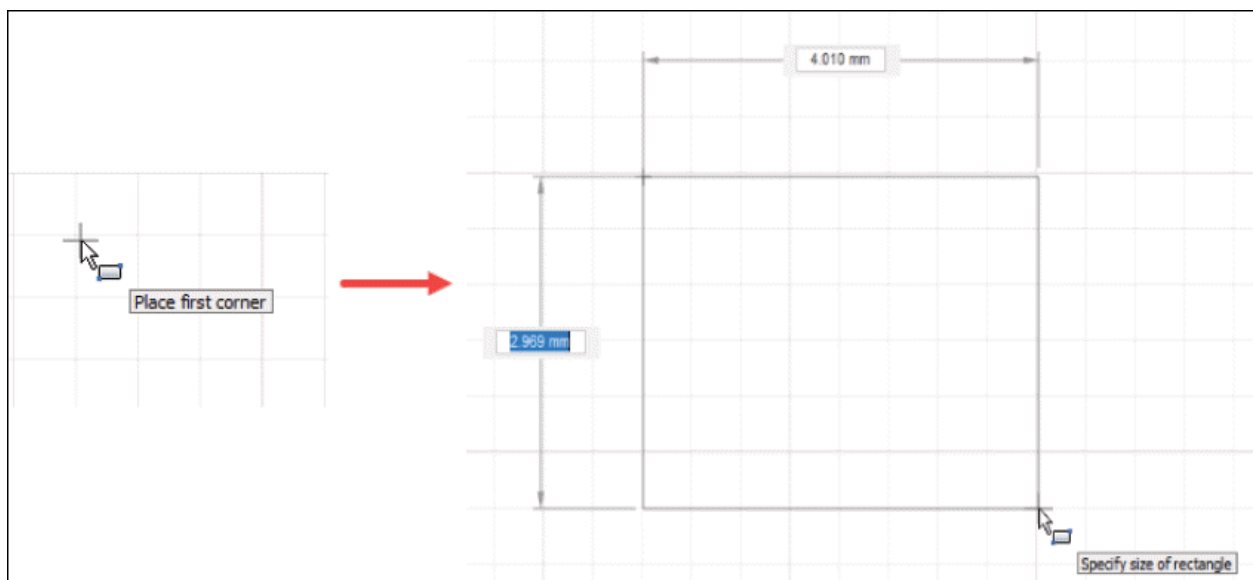

Figure-60. Entering dimension for rectangle
- Move the cursor to display preview of rectangle and click at desired location to specify other corner of rectangle. You can also enter the numerical value of **Length** and **Width** in their specific edit box; refer to Figure-60.